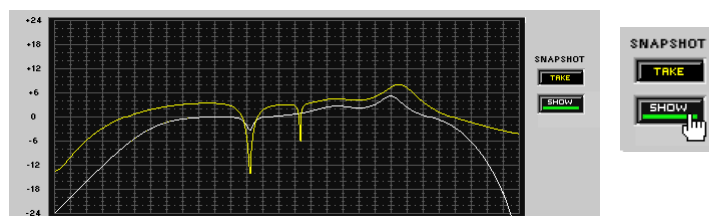

FIGURE 5-3: Reshaping the Response Curve
3. Change the processor settings. As you reshape the curve, you will be able to compare it to the snapshot of the previous curve showing in the background, as illustrated in Figure 5-3.